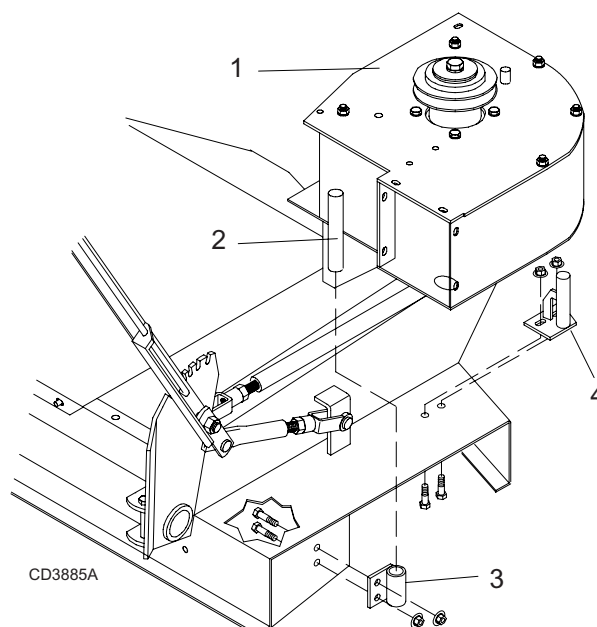

Figure 3. Vacuum Housing Installation
1. Install pivot mount bracket (3) using two 5/16 x 3/4 cap screws and whiz nuts as shown in Figure 3.
2. Install clevis shaft bracket (4) using two 5/16 x 3/4 cap screws and whiz nuts as shown in Figure 3.